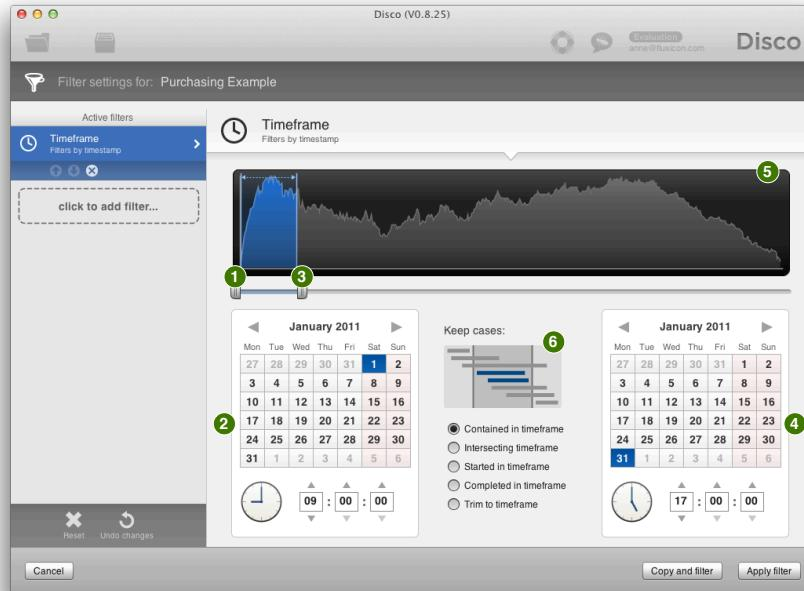

Fig. 5.9. Controls and options of the Timeframe filter.
Figure 5.9 gives you an overview of the options and controls that you have for the Timeframe filter in Disco:
For example, in Figure 5.9 the start time has been set to 1 January 2011 at 09:00 o'clock.
In Figure 5.9 the end time has been set to 31 January 2011 at 17:00 o'clock.
- *Intersecting timeframe*: Keeps cases that are *overlapping* (intersecting) with the selected timeframe. The reference point is the earliest and the latest timestamp in each case. So, even if nothing actually happened within (no events of the case actually fall into) the selected timeframe, the case will still be kept as long as it started before the end of the selected timeframe (**3, 4** in Figure 5.9) and ended after the configured start date (**1, 2** in Figure 5.9).